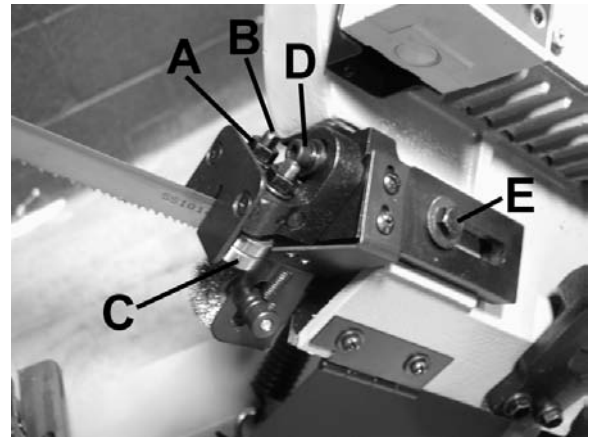

FIGURE 9
4. Loosen blade guide shaft nut (A) Fig.9.
5. Turn the eccentric shaft (B) counterclockwise. When the bearing (C) touches the saw blade properly, tighten the nut (A).
6. To adjust height of bearing guides, loosen cap screw (D) and move the bearing (C) up or down until it lightly touches the back of the blade.